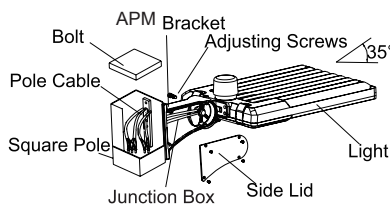

Figure 11
Step 1: Fix Pole Mount bracket to square pole with bolt, put the connected wire into pole. (Fig. 11)
Notice: Adjustable angle is 0-35° (Fig. 11)